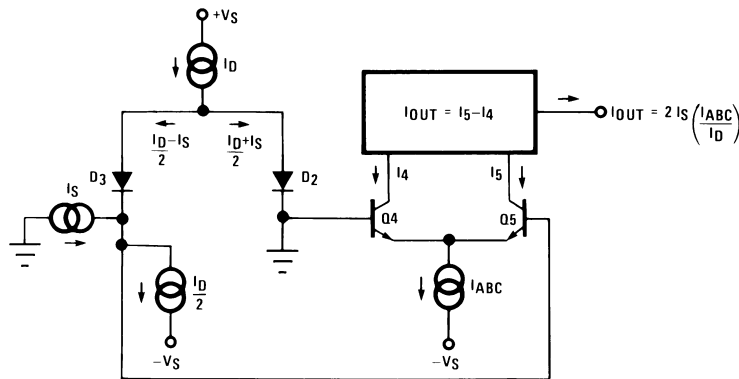

FIGURE 1. Linearizing Diodes
For differential voltages greater than a few millivolts, Equation (3) becomes less valid and the transconductance becomes increasingly nonlinear. Figure 1 demonstrates how the internal diodes can linearize the transfer function of the amplifier. For convenience assume the diodes are biased with current sources and the input signal is in the form of current  $I_S$ . Since the sum of  $I_4$  and  $I_5$  is  $I_{ABC}$  and the difference is  $I_{OUT}$ , currents  $I_4$  and  $I_5$  can be written as follows:
Figure 2 shows how the linearizing diodes can be used in a voltage-controlled amplifier. To understand the input biasing, it is best to consider the 13 k $\Omega$  resistor as a current source and use a Thevenin equivalent circuit as shown in Figure 3. This circuit is similar to Figure 1 and operates the same. The potentiometer in Figure 2 is adjusted to minimize the effects of the control signal at the output.